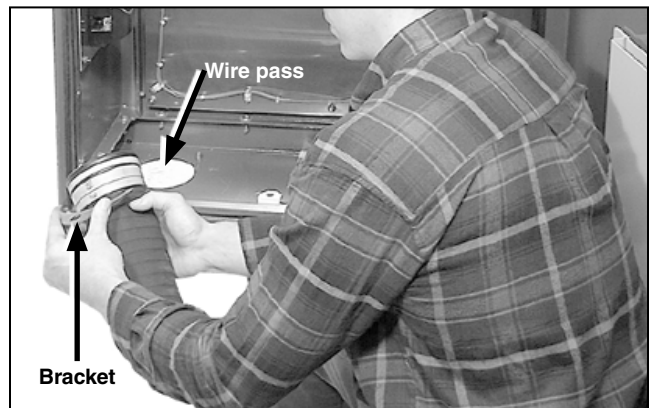

Figure 118. Placing the holding brackets in the grooved channel of the conduit.
- (b) Put the holding brackets in the grooved channel of the conduit as shown in Figure 118.